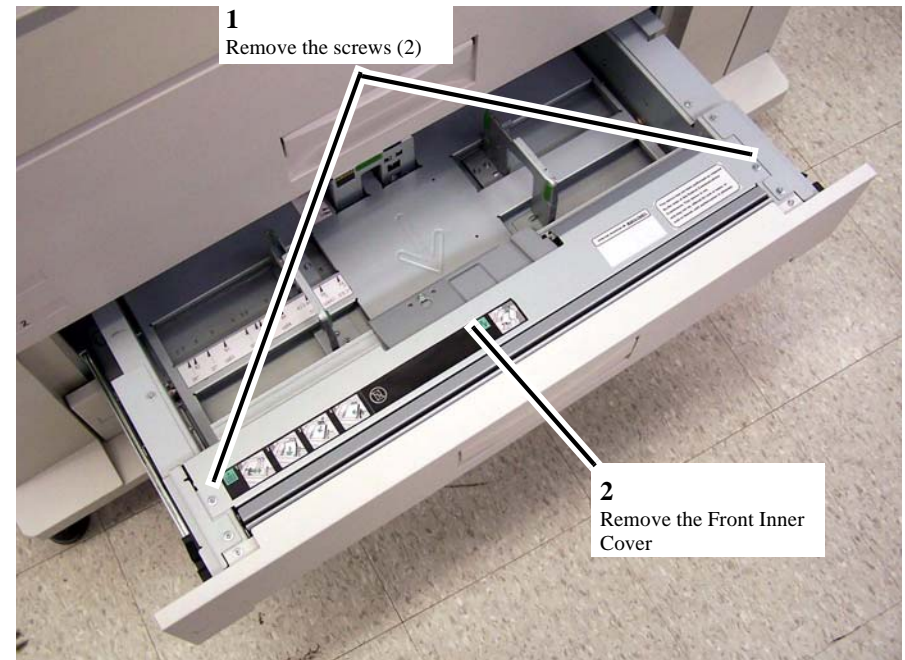

Figure 2 Removing the Front Inner Cover
4. Remove the Front Inner Cover (Figure 2).